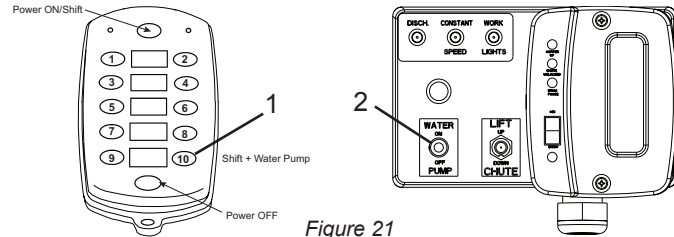

Figure 21
1. Use the radio remote (Figure 21, Item 1) or manual switch (Figure 21, Item 2) to turn the pump ON.